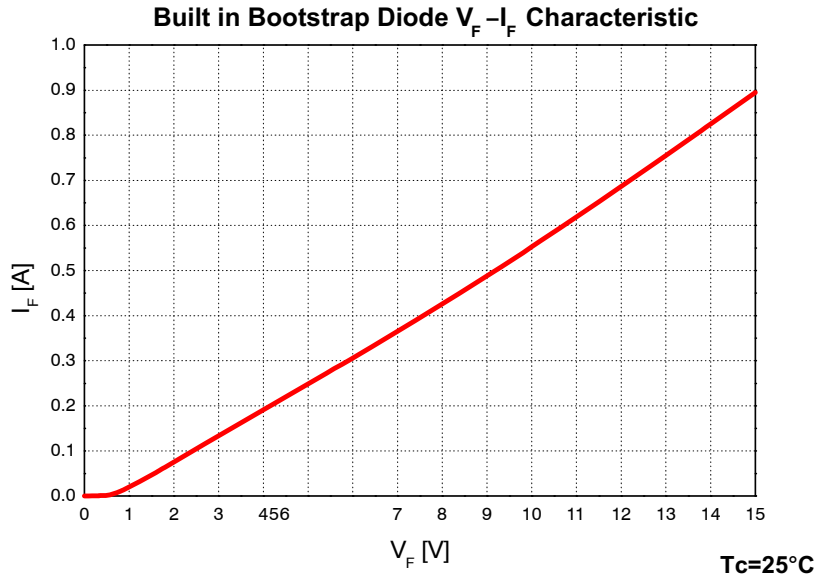

Figure 2. Built in Bootstrap Diode Characteristics (Typ.)
9. Built in bootstrap diode includes around 15 Ω resistance characteristic. Please refer to Figure 2.